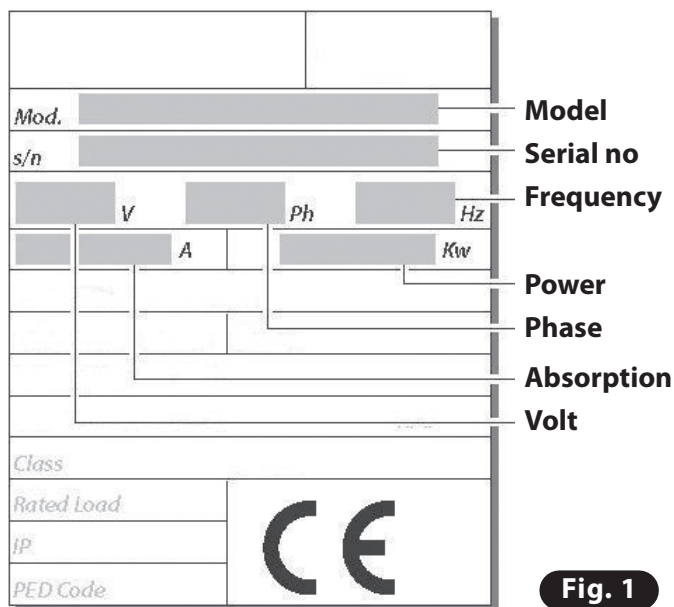

Fig. 1
- External cardboard packaging: 1 label (**Fig. 1**).